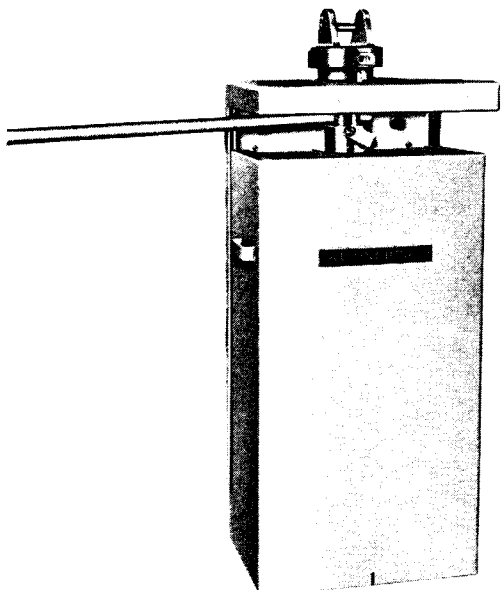

FIG. 3. Cover Lowered on Gear Train and Handle Inserted for Manual Operation
To lower the cover for manual operation, grasp the handles and move the cover slightly up and out to clear the padlocking hasp, and then lower the cover until its flange rests on the gear housing. See Fig. 3. Lugs on the cover engage slots in the rear of the gear housing, preventing the cover from sliding off of the housing.
**Manual Operation.** With the vertical pipe pinned to the motor mechanism as noted above, it is possible to operate the motor mechanism manually. The mechanism is so designed that the coupling and handle socket for manual operation are completely enclosed within the housing and are protected from ice, dirt and corrosion. Before the disconnecting switch can be operated by hand, the cover must be unlocked and lowered until it rests on the gear train housing. See Fig. 3.